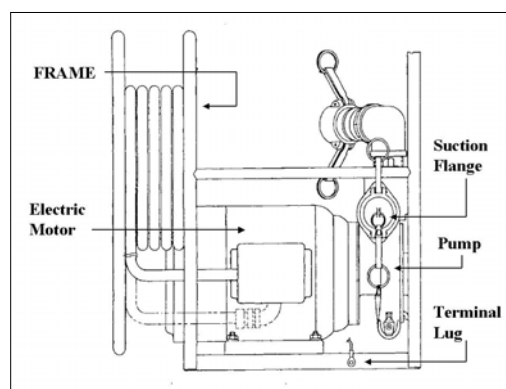

Figure 6-1. Electric motor driven pump (front view)
a. General. The electric motor driven pump (figure 6-1) is a portable, frame-mounted unit designed to pump water at the rate of 65 gpm (gallons per minute) at 50 ft-tdh (feet-total dynamic head).